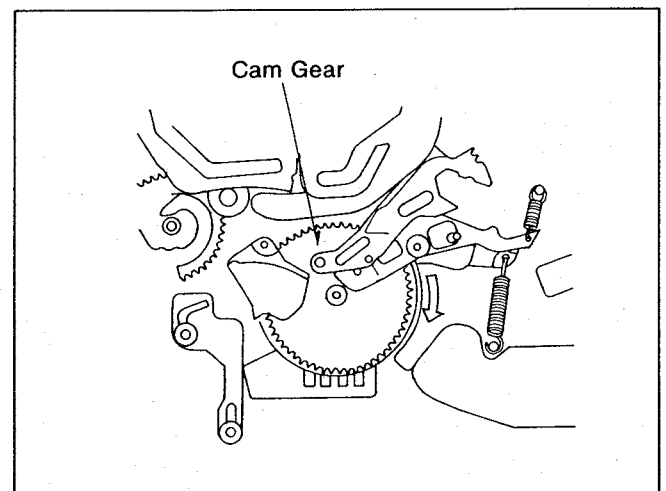

Fig. M19
- (2). When the installing of the Sector Gear is finished, Turn the Cam Gear to clockwise that set the Mechanism to play position (loading end) as shown in Fig.M19.